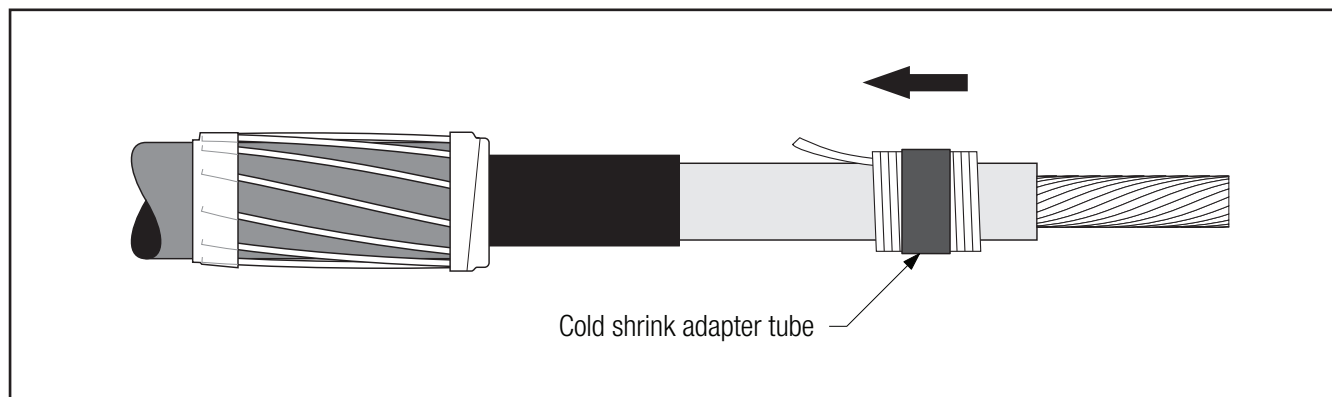

Figure 9
- 3.4 **For 350 through 1000 kcmil copper connectors, 350 through 750 kcmil aluminum connectors or connectors with an O.D. between 0.87-1.60" (22,1-40,6 mm):** Park cold shrink adapter tube on cable insulation (Figure 9).